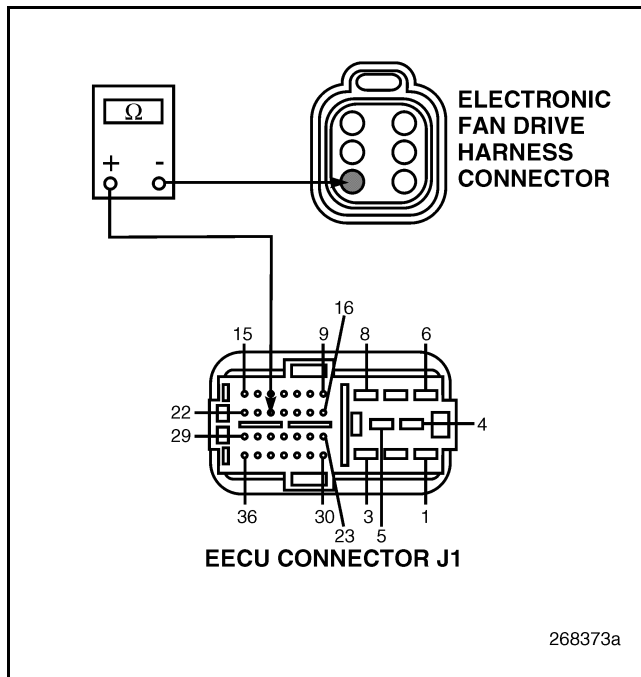

Figure 135
4. Check for continuity between EECU harness connector J1 pin 20 and electronic fan drive harness connector pin 3 (see Figure 135).